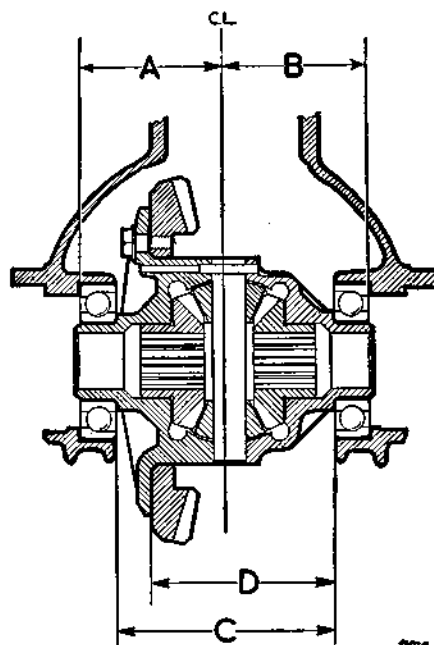

Fig. H.10
1. Before fitting the crown wheel and differential assembly to the gear carrier it is necessary to calculate the shim thickness required behind each bearing to give the required pinch. To facilitate the calculation, machining variations are indicated by stamped numbers on the carrier adjacent to the bearing bores. The dimensions to be considered are shown in Fig. H.10, (A) being the distance from the centre-line to the bearing register of the carrier on the left-hand side and (B) the distance from the centre-line to the bearing register of the carrier on the right-hand side. The (C) dimension is from the bearing register on one side of the cage to the register on the other side, while the (D) dimension is from the rear face of the crown wheel to the bearing register on the opposite side. Any variation from nominal on the (A) dimension will be found stamped on the carrier adjacent to the bearing bore, and similarly with the (B) dimension. The variations from nominal on (C) and (D) dimensions are stamped on the machined face of the differential cage.